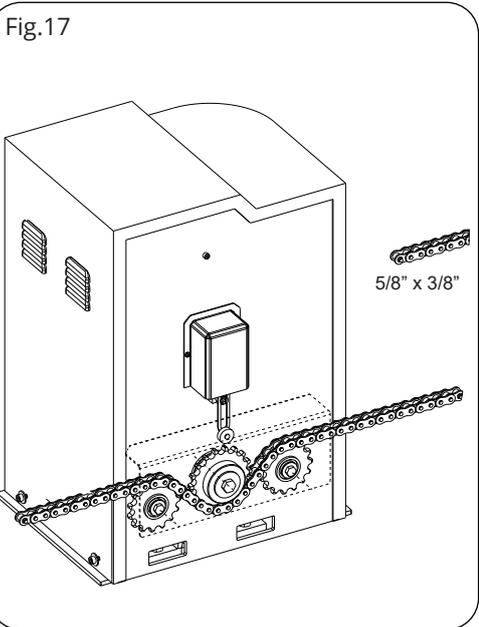

Fig.18
**BIG25QI:** Turn the handle clockwise (fig. 18).